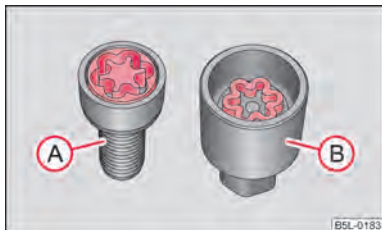

Fig. 171 Illustration image: Safety wheel bolt with adapter
- Insert the adapter (B) with its toothed side into the inner tothing of the head of the safety wheel bolt (A) ⇒ fig. 171.
- Insert the wheel wrench fully onto the adapter (B).